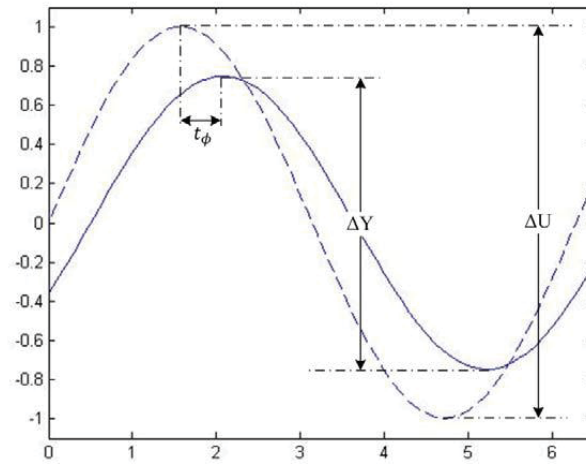

Figure 3
**Step 2** In the Simulink model, apply the sinusoidal input at frequencies of  $0.2 \text{ Hz}$ ,  $0.5 \text{ Hz}$ ,  $1 \text{ Hz}$ ,  $2 \text{ Hz}$ ,  $4 \text{ Hz}$ , and  $6.5 \text{ Hz}$ . For one frequency point, display both the sinusoidal input and the Tacho-generator output in the same window. The result should be similar to the one in Figure 3.
Fill out Table 2 based on the parameters defined in Figure 3 at different frequencies. Note that the frequency response of the system including the phase lag  $\angle H(j\omega)$  and the gain  $|H(j\omega)|$  can be calculated using the following equations, where  $T$  is the period of the sinusoid ( $T = 1/f$ ).